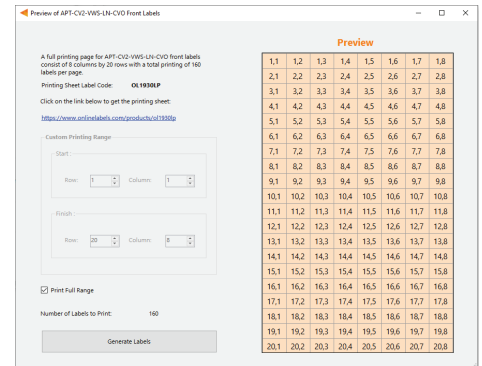

Figure 14: Label generation print preview window
- 5 Click **Generate Report**, the default web browser will open and display a preview of the print (shown in Figure 14).